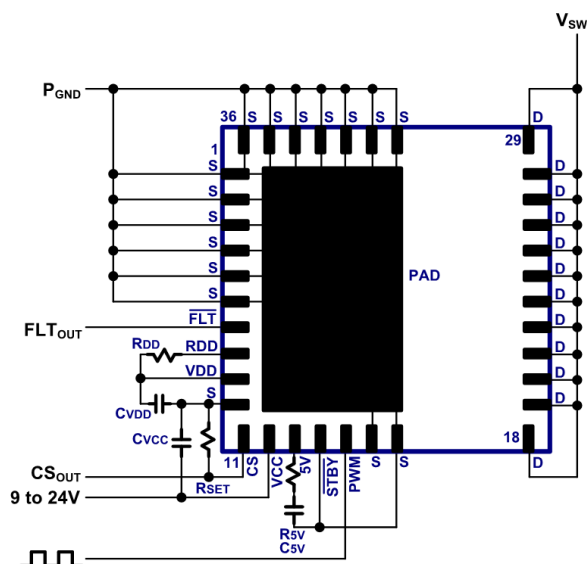

Fig. 20. IC connection diagram
The typical connection diagram for this GaN Power IC is shown in Fig. 20. The IC pins include drain of the GaN power FET (D), source of the GaN power FET (S), IC supply ( $V_{CC}$ ), gate drive supply ( $V_{DD}$ ), gate drive turn-on control SET input ( $R_{DD}$ ), PWM input (PWM), Fault output (FLT), current sensing output (CS), auto-standby mode input ( $\overline{STBY}$ ), and a 5V supply (5V). The Source pad and Source pins (S) should all be connected to the system PGND. The Source pins (S) should each be connected externally to the Source pad directly underneath the IC. The Drain Pins (D) should all be shorted together in the PCB layout (see Section 9). The external components around the IC include  $V_{CC}$  filter capacitor ( $C_{VCC}$ ) connected between  $V_{CC}$  pin and S,  $V_{DD}$  filter capacitor ( $C_{VDD}$ ) connected between  $V_{DD}$  pin and S, turn-on dV/dt set resistor ( $R_{DD}$ ) connected in between  $V_{DD}$  pin and  $R_{DD}$  pin, a current sense amplitude set resistor ( $R_{SET}$ ) connected between CS pin and S, and auto-standby mode pin ( $\overline{STBY}$ ) connected to S. A series resistor ( $R_{5V}$ , 20 ohm) capacitor ( $C_{5V}$ , 0.01uF max) is required between pin 5V and S. This 5V pin is for internal purposes only and must not be used for biasing external circuitry.